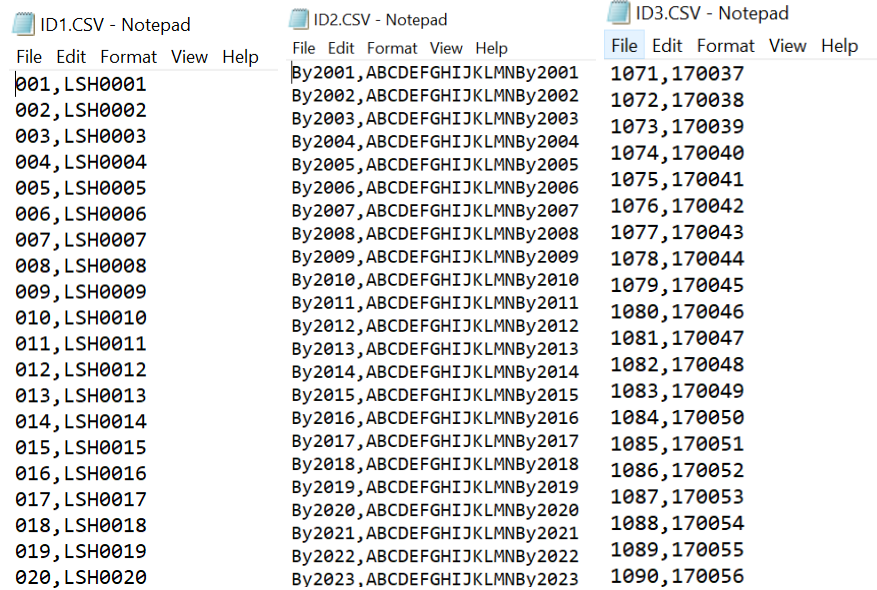

Figure 1-45: Sample ID Value Files
- Note that these ID files should contain both ID index and ID descriptions; are named **ID1**, **ID2** and **ID3**; and are saved in .csv format, as shown in Figure 1-45.